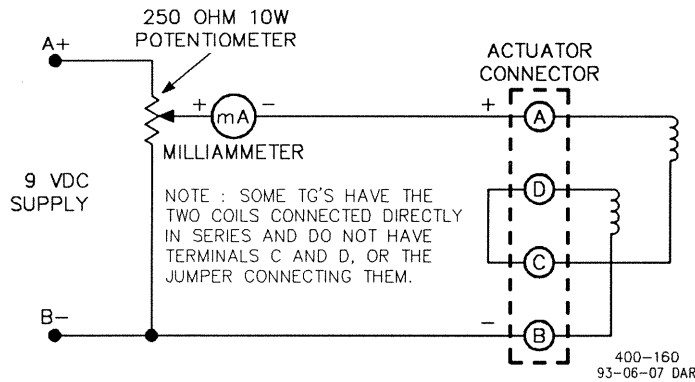

Figure 3-2. Wiring Diagram for Actuator Calibration Circuit
6. Apply a 0 to 200 mA power source to pins A and B of the connector to check the level adjustment on the actuator (see Figure 3-2).
3. Connect a test circuit to pins A and B on the pin connector to the actuator. The test circuit is shown in Figure 3-2.